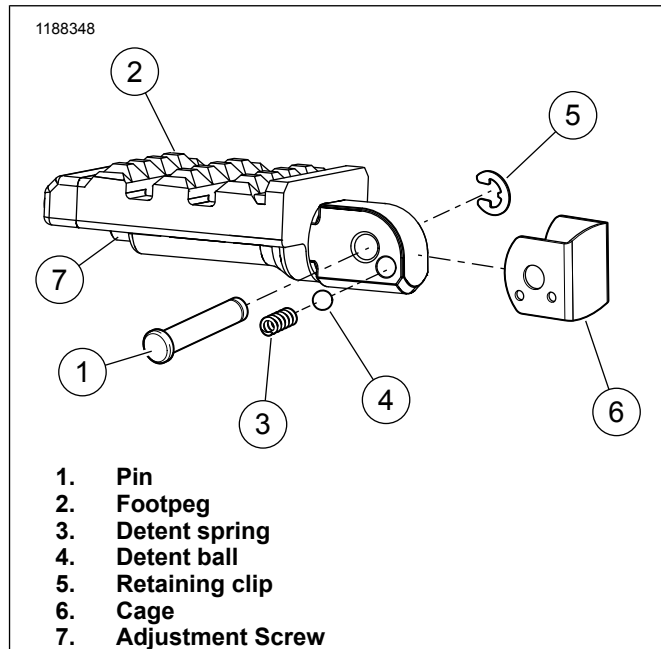

Figure 3. Passenger Footpeg Detent Ball Installation
1. See Figure 3. Your model motorcycle is equipped with a pin (1) and retaining clip (5). Remove them and retain for future use. Save all hardware, including detent spring (3), detent ball (4) and cage (6) for installation of the new footpegs (2).
2. Insert detent spring (3) into new footpeg (2), followed by detent ball (4). Position cage (6) on footpeg clevis edge while capturing the detent ball (4) and detent spring (3) inside cage (6) while sliding cage (6) onto footpeg clevis.
See Figure 3. When performing the next step, verify that the spring (3) is positioned inside of the footpeg (2).
3. Align cage (6) and footpeg (2) with footpeg mount on vehicle.
4. Install pin (1) and retaining clip (5).
5. See Figure 3. Adjust orientation as follows:
- c. Tighten adjustment screw (7).